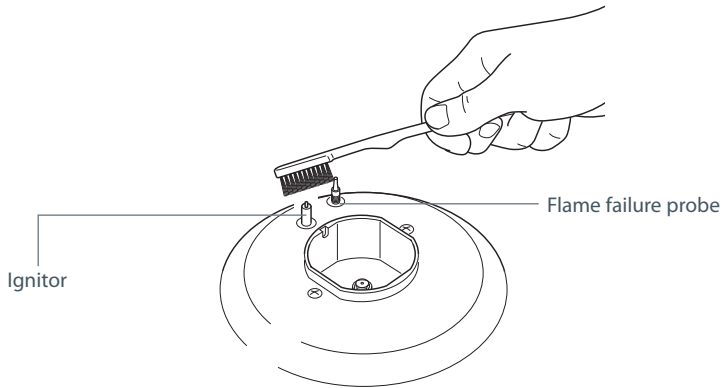

Fig. 14 Cleaning the ignitor and probe
- These models have a flame failure probe as well as the ignitor (see Fig 14).
- The ignitors are sparking. If the ignitors are not sparking, they may be dirty or wet. Clean them with a toothbrush and methylated spirits, as shown in Fig. 14.
Monthly	Remove all burner parts, and clean using a non-abrasive detergent. Rinse in cold water, dry thoroughly, and replace. Clean the ignitor and probe carefully, using a toothbrush and methylated spirits (Fig. 14).